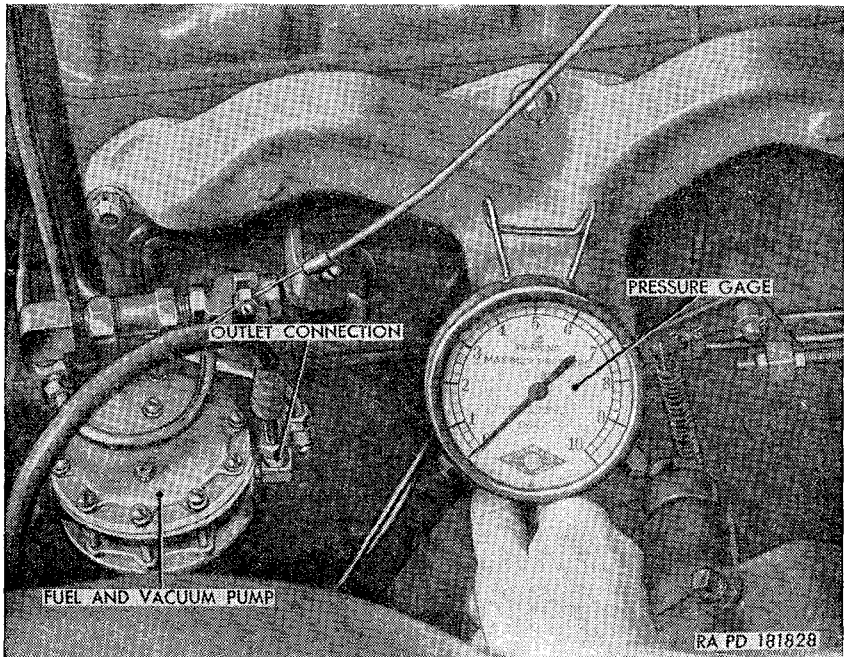

Figure 35. Testing fuel pump pressure.
- (2) *Fuel tank empty.* Check fuel gage for level in fuel tank and refuel if necessary.
- (3) *Fuel filter clogged.* Remove the fuel filter assembly (par. 138*a*) and replace element (par. 139). Make sure connections are tight.
- (4) *Fuel line leak.* Check all fuel lines and fittings carefully for leaks (par. 142).
- (5) *Fuel pump pressure incorrect.* Disconnect fuel line from outlet side of fuel and vacuum pump. Install a pressure gage (fig. 35) in the fuel and vacuum pump outlet. With ignition switch turned off, crank engine with starter until the pointer on the pressure gage reaches a maximum reading. Fuel pump pressure should be between 4½ and 5 psi. If pressure is incorrect, replace the fuel and vacuum pump assembly (par. 137). If pressure of new pump is incorrect, notify ordnance maintenance personnel.